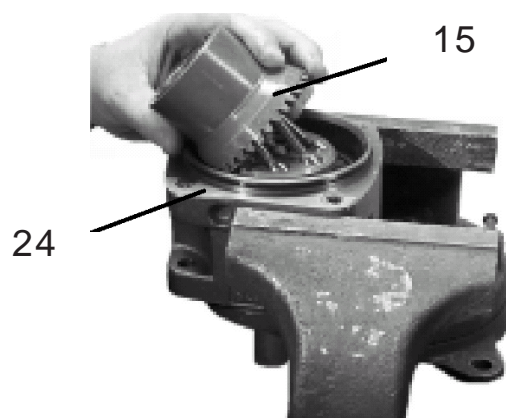

Figure 4
3. Remove Cylinder Barrel. Remove the Shim (item 24) and set it aside. Lift the Cylinder Barrel up and out (See Figure 4), This will leave the barrel support components (item 16) sticking up out of the shaft. Support components (item 16) are an assembly of four parts. The pistons (item 17) will also be sticking up. Make certain all the removed components are laid in a clean area.